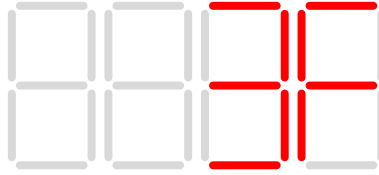

Figure 1: Example display
- When read enable is turned ON, the value for that element should be visible on the 7-segment displays 0 and 1. The other two should remain inactive. See Figure 1.
Switching SW15 as ON should result in 3F being displayed on the four 7-segment display as in Figure 1.